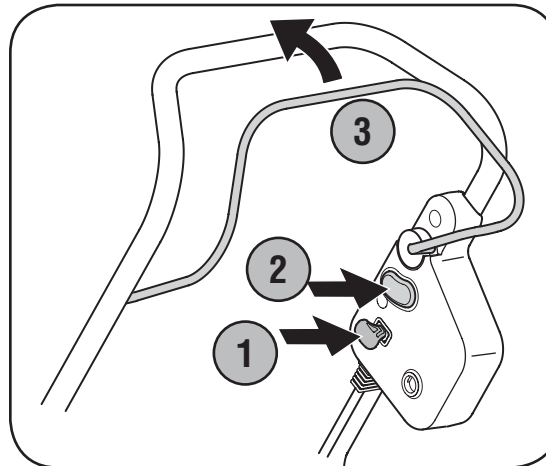

Figure 5-3
1. Insert key. Refer to Figure 5-3.